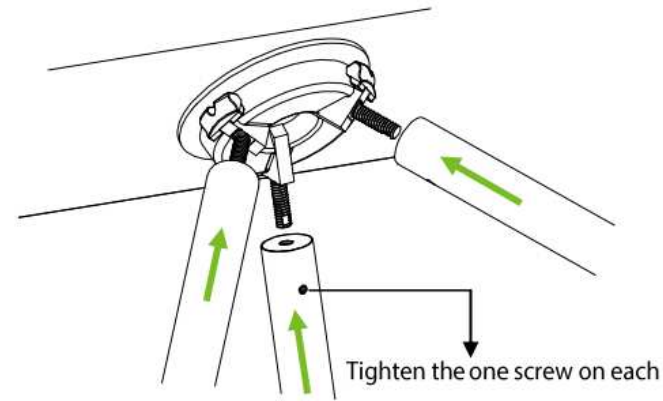

Figure 2-3
2. Insert the arms to the connection points, and use the hex key to fasten the one screw on each arm as shown in figure 2-3.